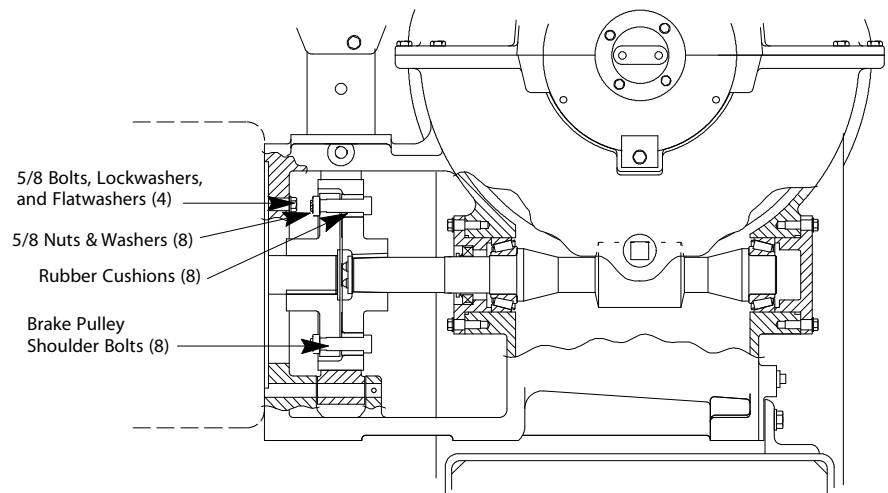

Figure 45 - Brake Coupling to Motor
4. Remove the eight (8) 5/8" nuts and washers from the brake pulley shoulder bolts. See Figure 45 on page 67.
6. Remove the four (4) 5/8" bolts, lockwashers, and flat washers that secure the motor to the gear case.